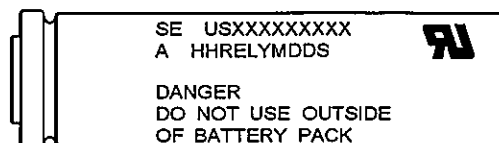

Fig.1
6.2 Trade Mark (Fig.1 : USXXXXXXXXXX) 登録機種名 (Fig.1 : USXXXXXXXXXX)
6.3 Plant (Fig.1 : A for plant code) 製造所 (Fig.1 右記図 : A)
6.4 Specification (Fig.1 : HH for Cell Type) 仕様 (Fig.1 : HH)
6.5 Lot Number (Fig.1 : YMDDS for Manufacturing Date of Cells)
ロット、セル製造年月日 (Fig.1 : YMDDS)
Lot Number (Fig.1 : YMDDS for Manufacturing Date of Cells)
6.8 Warning Message (Fig.1)